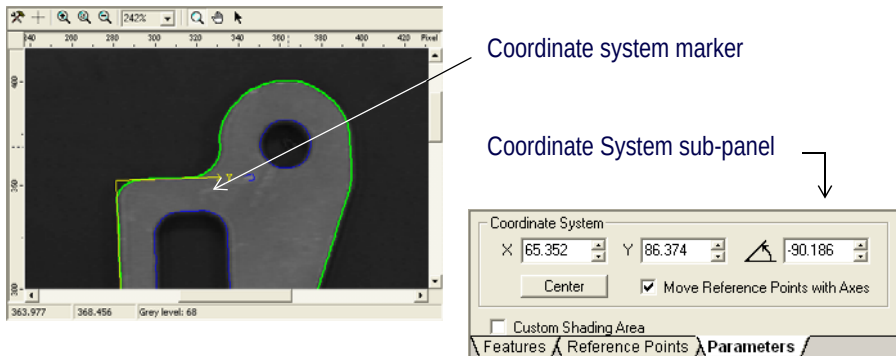

Figure 57 Adjusting the Position and Orientation of the Model Coordinate System
3. Use the mouse to position the coordinate system marker (yellow axes) over the object, as shown in Figure 57.